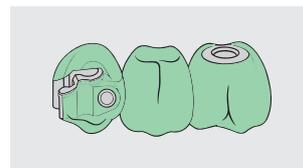

Fig. 3
**Important:** The female part must be coated with **at least 1 mm of wax** all around (Fig. 3). Ensure that the ceramic is not in contact with the Valor® female part as the coefficient of thermal expansion of Valor® is lower than that of the ceramic alloy (risks cracks in the ceramic).